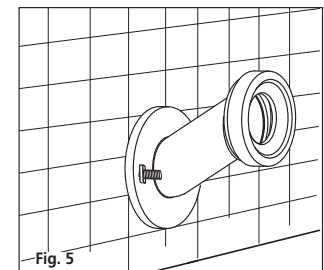

Fig. 5
- 3- Position rear outlet adaptor onto 'T' bolts and secure onto foam ring with nuts as detailed in **Fig. 5**.